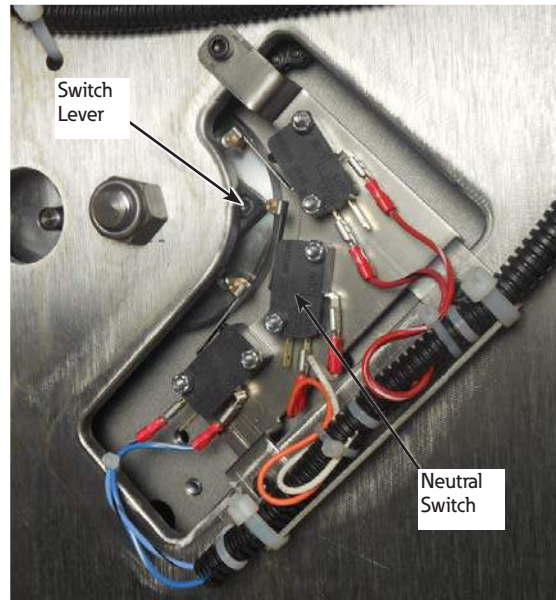

Figure 28. Neutral switch is depressed
D. The neutral switch will be depressed with the switch lever. See Figure 28.